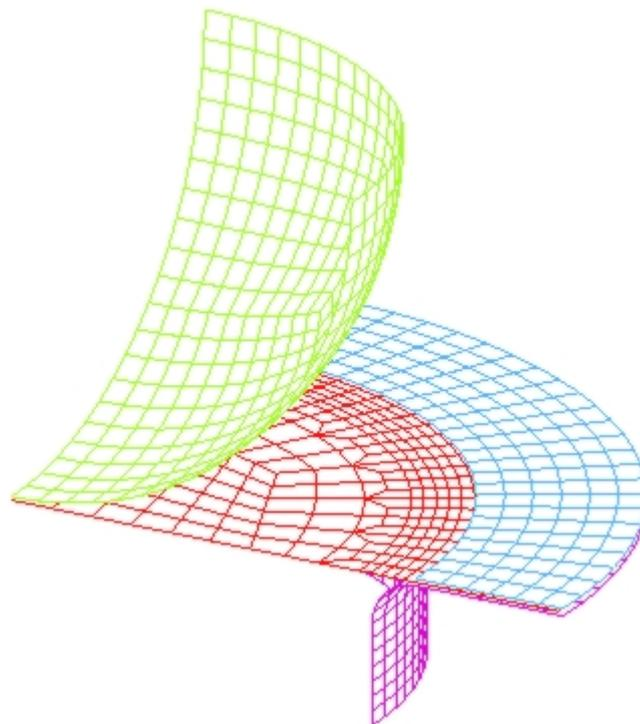

Figure 2.2 Imported model
2. Use your mouse cursor to select the data file, following by clicking the **Ok** button. Now, the model illustrated in Figure 2.2 is displayed on the display area.